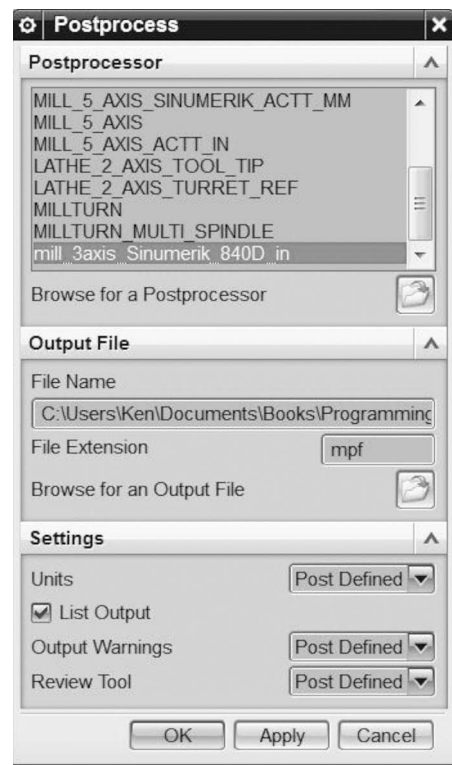

Figure 6-33 Post Process Dialog
- L. Highlight the FBM_EXAMPLE, Program Group, and press the Post Process icon from the Ribbon Bar (Figure 6-32). From the Postprocess dialog box, choose the mill_3axis_Sinumerik_840D_in. from the list (Figure 6-33). If not available, press the Browse for a Postprocessor icon in the dialog box. Be sure to set the Output File location to a folder where you want the posted path to reside. This file is then sent to the Machine Tool controller.